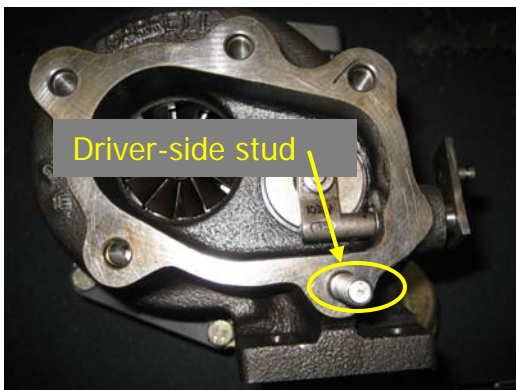

Fig.9b
- 6) On the driver-side turbo, install one (1) M8 stud in the turbine housing outlet flange as shown. (Fig. 9b) (next page)